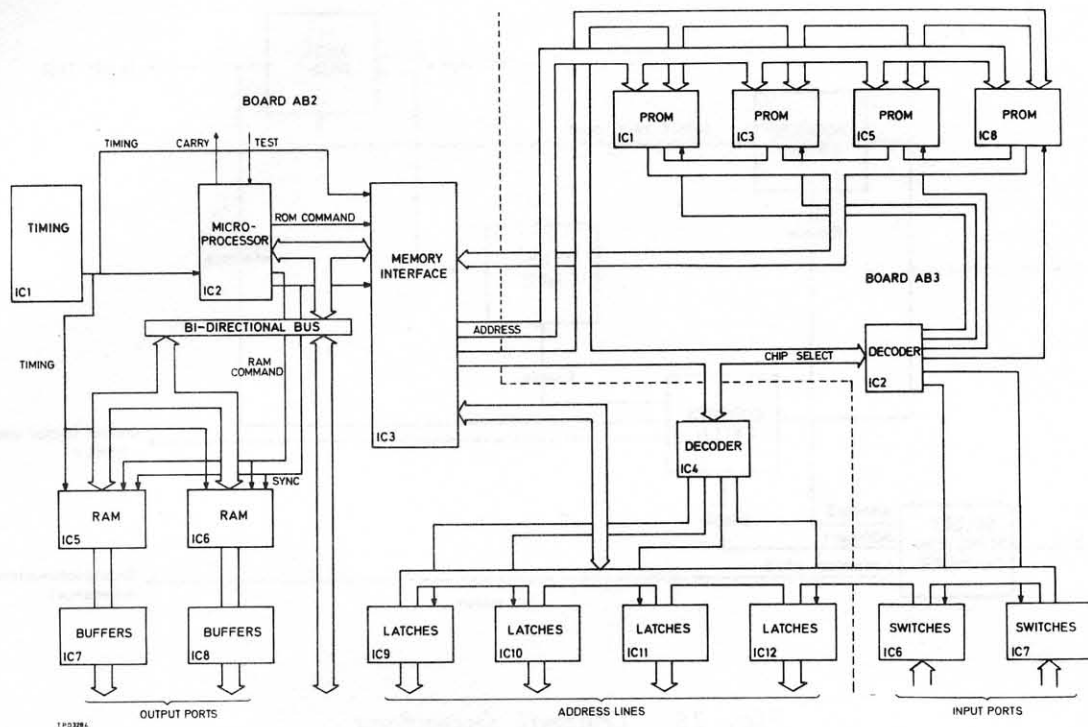

Fig. 17 Microprocessor boards
59. Eleven of the twelve address inputs from board AB2 are passed through a level shifter formed by ICs 11, 12a and 13a and then on the ADDRESS lines to the ROMs. Thus all ROMs are addressed simultaneously; all that remains is to enable the appropriate ROM in order to select just one of the 2048 instructions in each ROM. This is the function of the CM ROM lines to R-S latch IC4a and the C3 CHIP SELECT line to the binary to 1 of 4 decoder IC2a. One of IC2a \bar{Q} outputs goes low to enable a ROM to place the addressed byte onto the output lines to board AB3 via buffers IC9. A block diagram showing board AB2 and AB3 operation is given in Fig. 17. Decoder IC2a is enabled by the interface IC on board AB2 setting the IN line high to the base of electronic switch TR1 which then switches on to set pin 1 low.